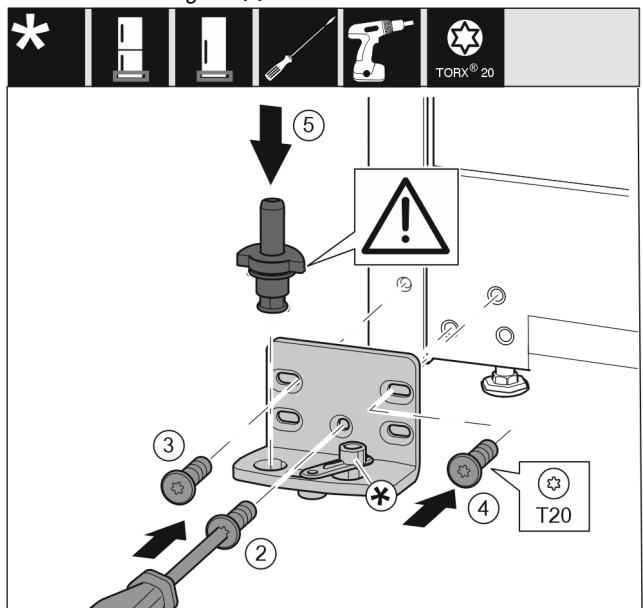

Fig. 38
- ▶ Place the swap bearing block on the other side and use a screwdriver to screw it on. Start with the screw *Fig. 38 (2)* at the bottom in the middle.*
- ▶ Tighten screw *Fig. 38 (3)* and screw *Fig. 38 (4)*.
- ▶ Insert the bearing bolt *Fig. 38 (5)* completely. Ensure that the latching cam is pointing towards the rear.
- ▶ Place the swap bearing block on the other side and use a screwdriver to screw it on. Start with the screw (2) at the bottom in the middle.*
- ▶ Tighten screw (3) and screw (4).*
- ▶ Turn the closing damper connection (5) by 180°. Use screwdriver to screw it onto the other side of the swap bearing block.*
- ▶ Insert the bearing bolt (6) completely. Ensure that the latching cam is pointing towards the rear.*